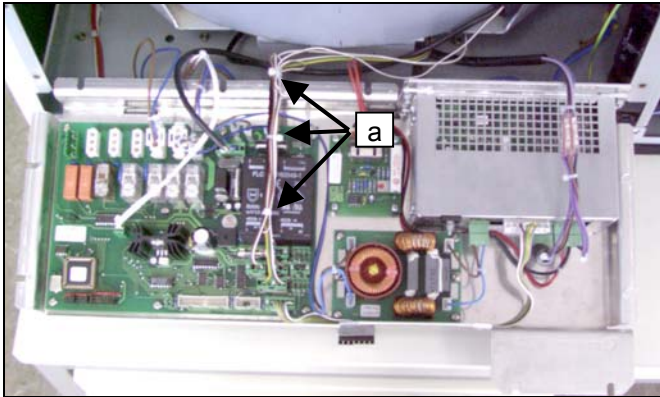

Fig. 14
- Remove all fixing elements (Fig. 14, a) of the speed sensor cable.
- To mount the speed sensor, carry out these steps in opposite order. Fasten the speed sensor cable again, see Fig. 14.